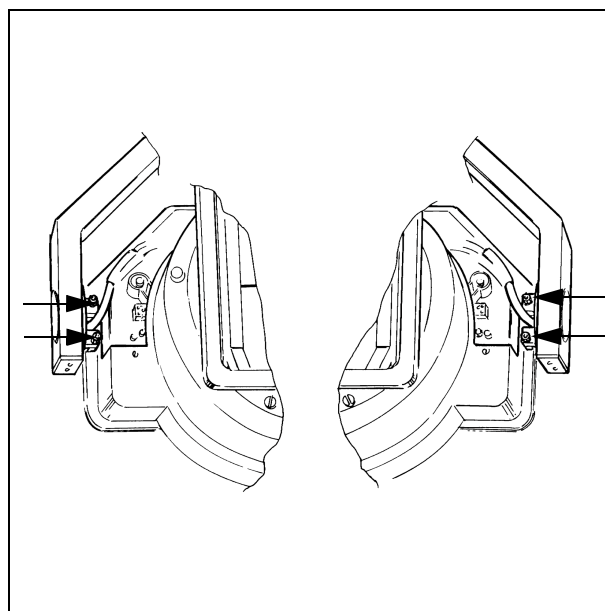

Fig. 19
- Remove the screws and nuts (Fig. 19) bolts placed in the ends of the axis of rotation.
- Install the four screws according to (Fig. 19).